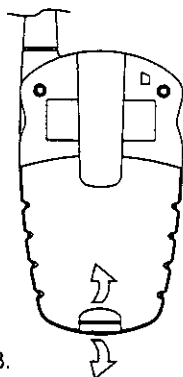

Figure 3.
1. Release the BATTERY COMPARTMENT COVER LATCH located on the rear side of the unit (see Figure 3) and remove the BATTERY COMPARTMENT COVER from the BATTERY COMPARTMENT (See Figure 4).